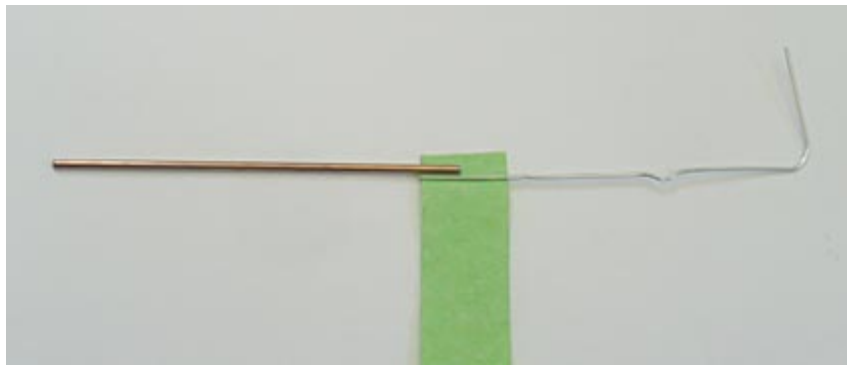

Figure 6. Picture showing how to connect a paperclip unfolded into an L shape with the bendable iron core using masking tape (green in this picture).
9. Connect the long side of one of the L-shaped paperclips to the bendable iron core using *masking* tape, covering approximately 1/8 inch (.6 cm) of the iron core with tape, as shown in Figure 6. Secure it well so your axle is sturdy. We strongly suggest you use masking tape; other tape might not create a sturdy attachment.